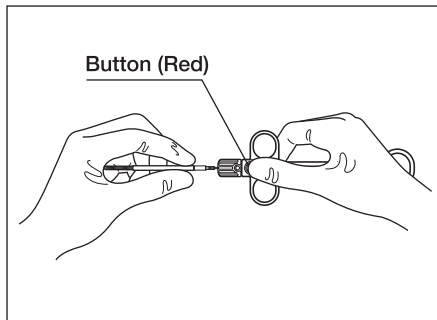

Figure 3.8
7. While depressing the slider's button (red), insert the proximal end of the control wire all the way into the distal end of the control section of industrial retrieval tool, and then release the button (red) to fix the control wire on the control section (see Figure 3.8).